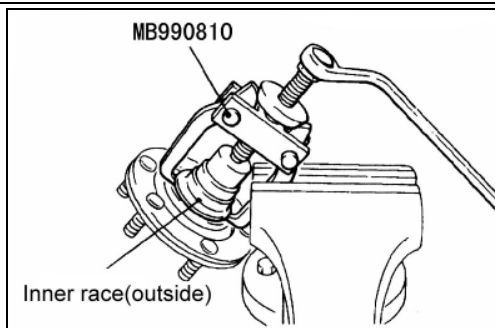

Fig.12-13
b. Remove the wheel bearing inner race(outside) from the front hub by using the special tool.(see Fig.12-13)。